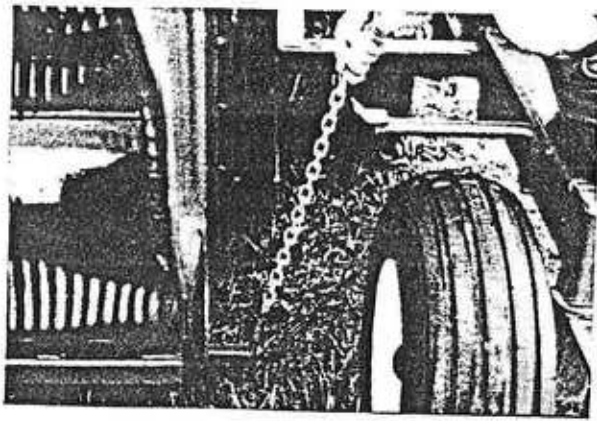

FIGURE 17
- B. Lower the bag pan by disconnecting the chains located on both side of the compacting tunnel. Figure 17.